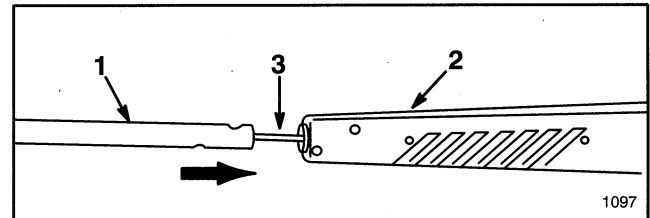

Figure 5
1. Straighten out any kinks in wiring. Push wiring extending out of metal tube down into motor housing until tube is close to housing (Fig. 5).